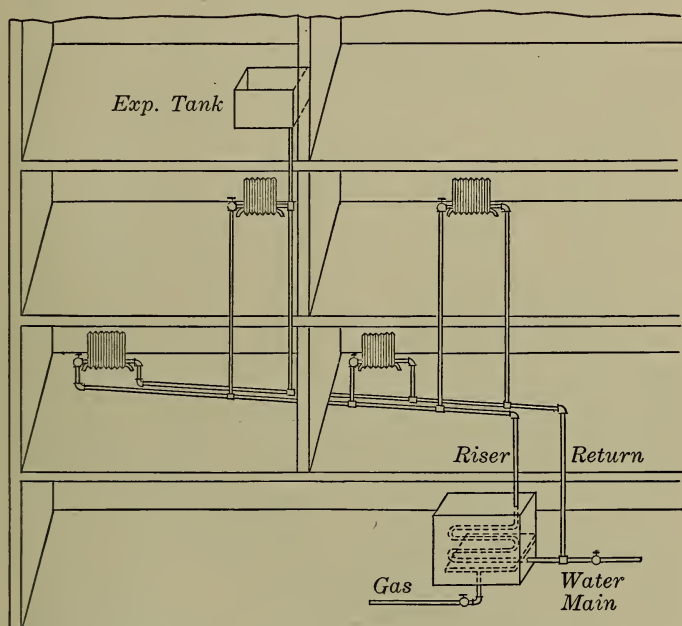

FIGURE 38. — DIAGRAM OF A HOT-WATER HEATING SYSTEM.
**61. Hot-water Heating System.** — Figure 38 shows a modern hot-water heating system. The furnace is located in the basement, and has a boiler above the fire-box. From the *top* of the boiler, pipes are led off to the radiators in the different rooms. Returning from the other end of the radiators are pipes to bring the water back to the *bottom*